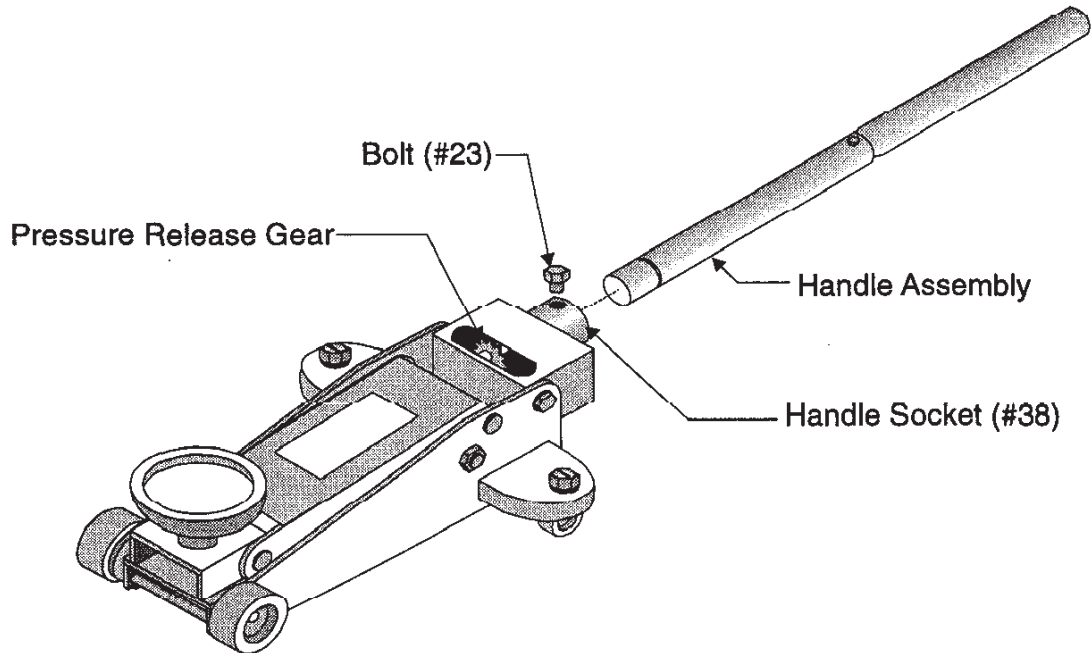

Figure 2 -- Jack Assembly
Step 6: Thread BOLT into HANDLE SOCKET and tighten with 11/16" wrench as shown in Figure 2